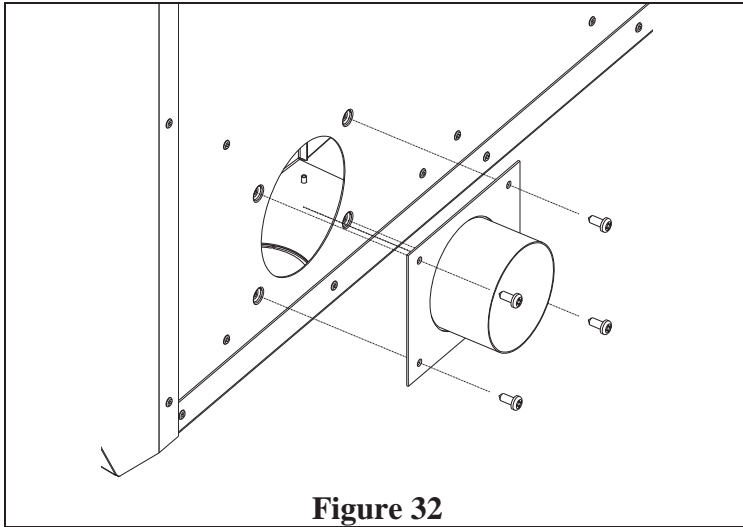

Figure 32
- 4) Install the adapter over the selected inlet with the 4 screws included (figure 32).